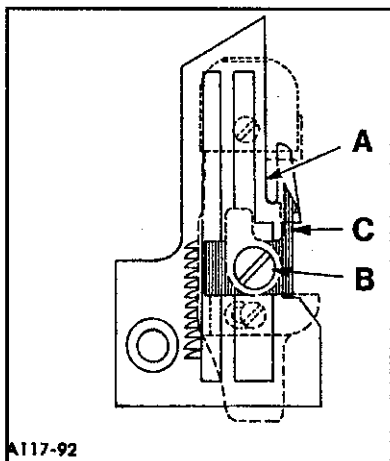

Fig. 18
If adjustment is necessary, loosen screws (C and D) and adjust shaft (E) right or left until the right edge of the presser foot aligns with the left edge of the throat plate needle slot (See A, Fig. 18). Tighten screws (C and D). Make sure lifter lever arm (F) is in a vertical position when screw (D) is tightened and that presser arm (A) does not bind when release bushing (B) is unlocked. Loosen screw (B, Fig. 18) and adjust stitch tongue (C) right to left, to center over the throat plate stitch tongue. Tighten screw (B).